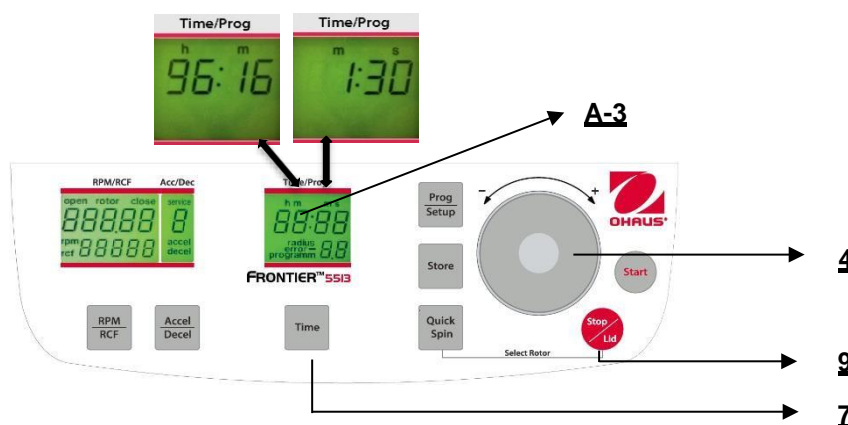

Figure. 14
3. The continuous run **"cont"**, which can be interrupted by the key **"Stop/Lid"**(9) (refer to figure 14).
The display always shows the remaining running time. (see figure 14)